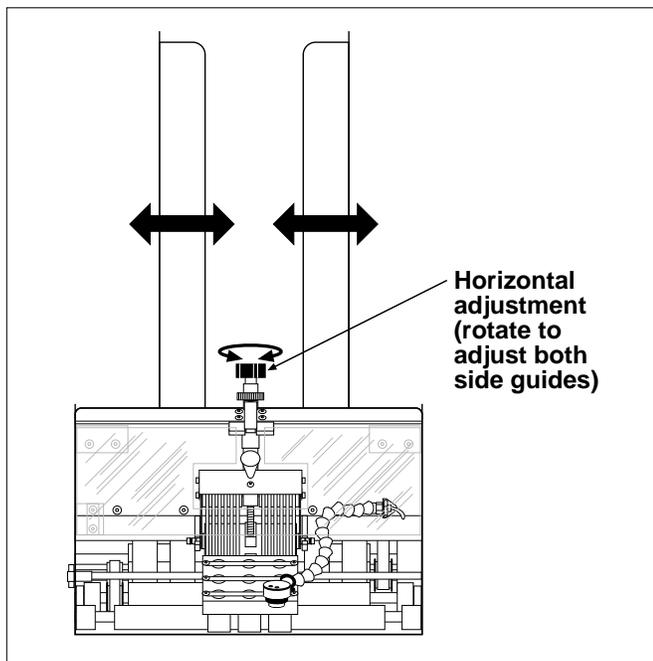

Figure 2-6. Horizontal Adjustment of Side Guides
One-Knob Side Guides (optional). To adjust each side guide for proper *equidistant* horizontal spacing using the single-knob adjustment, follow these steps (Figure 2-6):
- 1) *One-Knob:* Both side guides controlled simultaneously by a single knob (as shown in Figures 2-6 and 2-7).